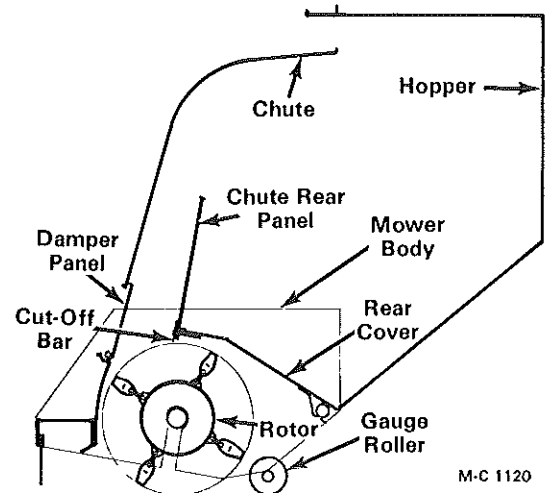

Figure 4A
8. Before the hopper is installed, check the clearance between the knives and the cut-off bar at the bottom of the chute rear panel as follows, see Figure 4A and 4B.